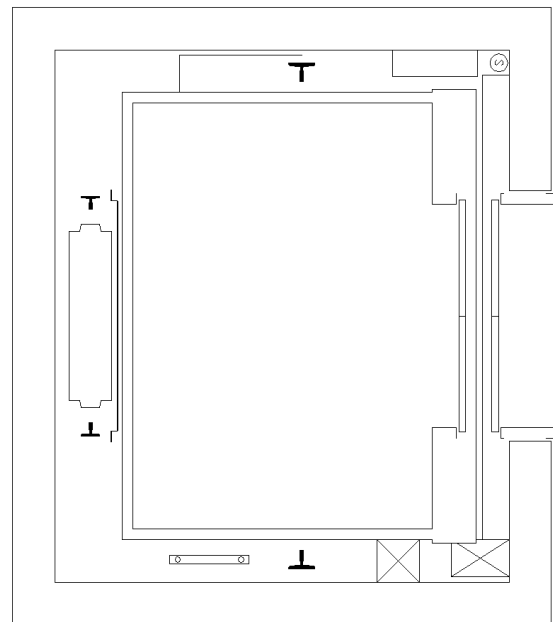

Figure 3-3.8 Elevator shaft drawing
16. Continue to use the **Join** command to cleanup all three sides of the elevator car as shown in Figure 3-3.8.
17. Select everything visible in Figure 3-3.8 and change its *Layer* to **0** (i.e., zero).